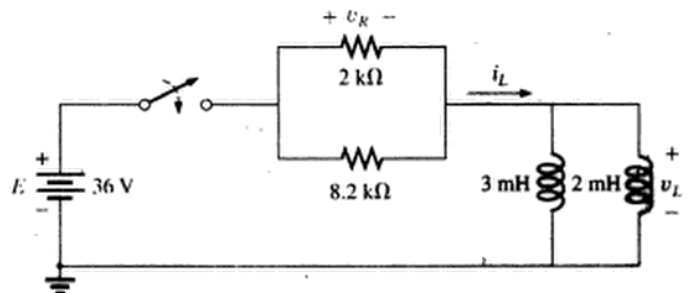

FIG. 11.105
*40. For the network in Fig. 11.105: